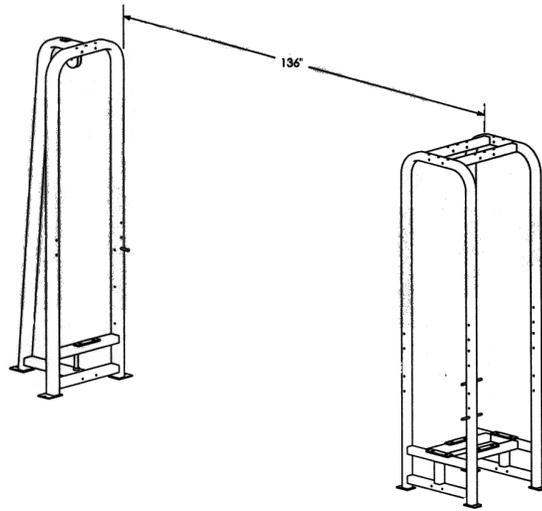

Figure 3. Set the weight stack cells.
1. **Place the two weight “cells”** in their final resting spots. The cells will be approximately 11'4” apart as shown in Figure 3.
Hardware Figure 3 shows the types of cables that are included with the SM41.
Hardware Figure 3. Cables.